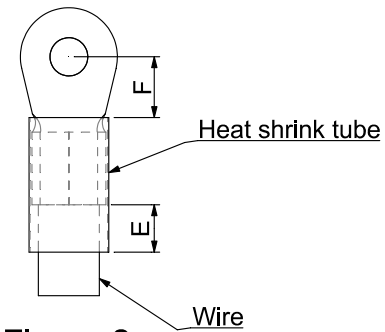

Figure 2.
- After crimping the wire to the ring lug (must be UL approved), UL and CSA approved R/C (YDPU2), install heat shrink tubing rated at a minimum of 600 V_{AC} insulation over the live part. Refer to Figure 2 below.